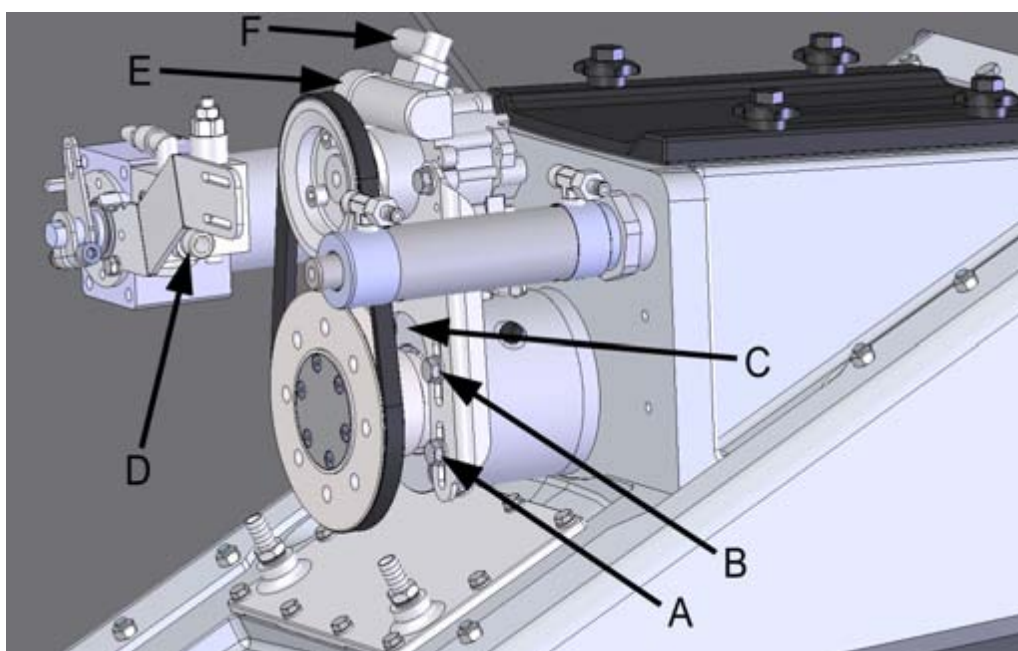

Figure 29. Attaching the hydraulic pump
There are a total of four screws, two on each side (figure 29, points A and B).
3. Lift the rack by cranking it from point C indicated in figure 29.
5. Install the pressure hose to connectors D and E (figure 29).
6. Install the reservoir hose to connector F (figure 29).